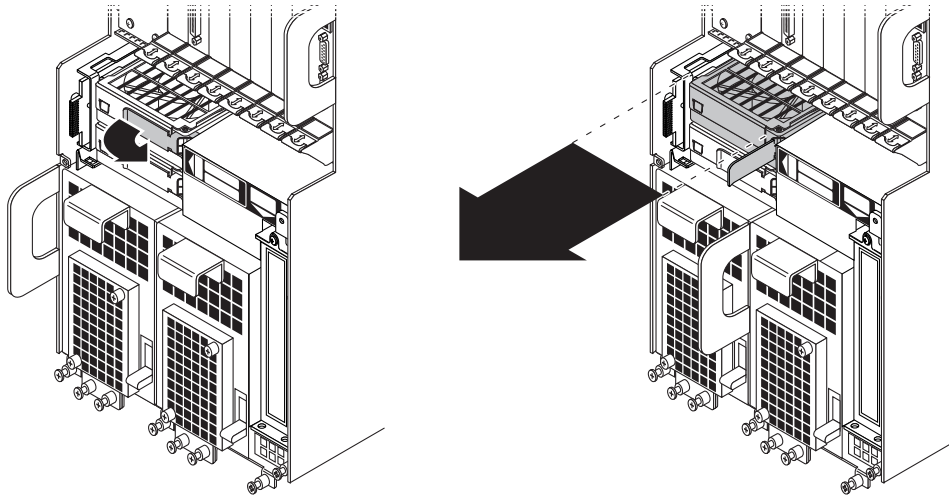

FIGURE 8-22 Removing a Fan Tray
1. **Insert the fan tray into the system, making sure the handle on the fan tray is on the right, and press the fan tray handle to lock the fan tray into place (FIGURE 8-22).**